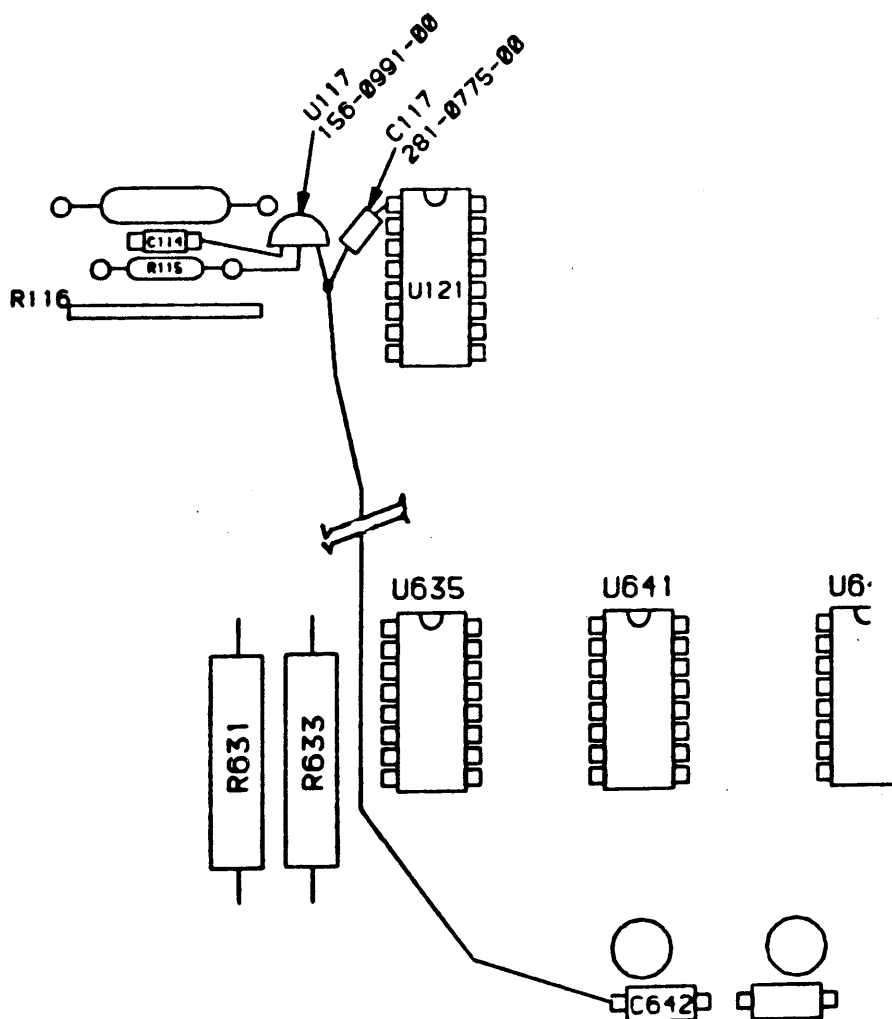

Figure 5
3. Add the 3-terminal +5V regulator, U117, (156-0991-00) to the front side of the board, as in Figure 5.